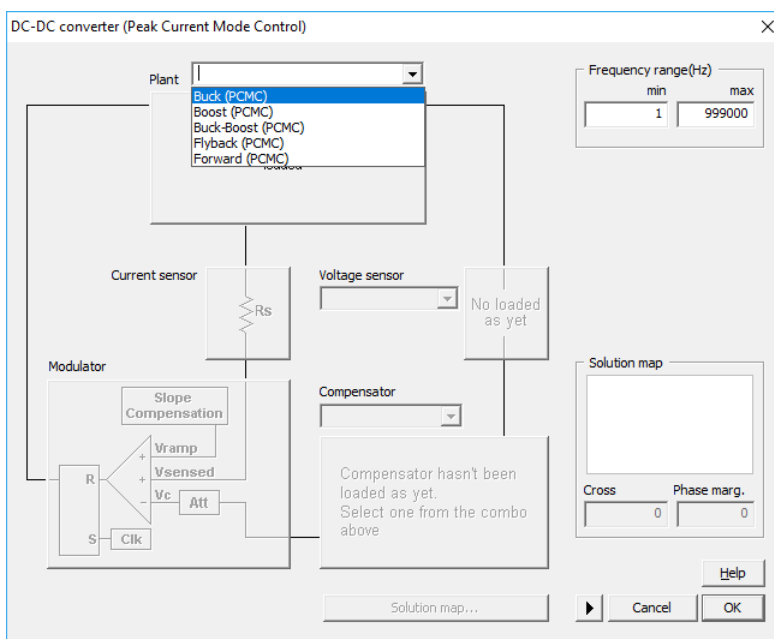
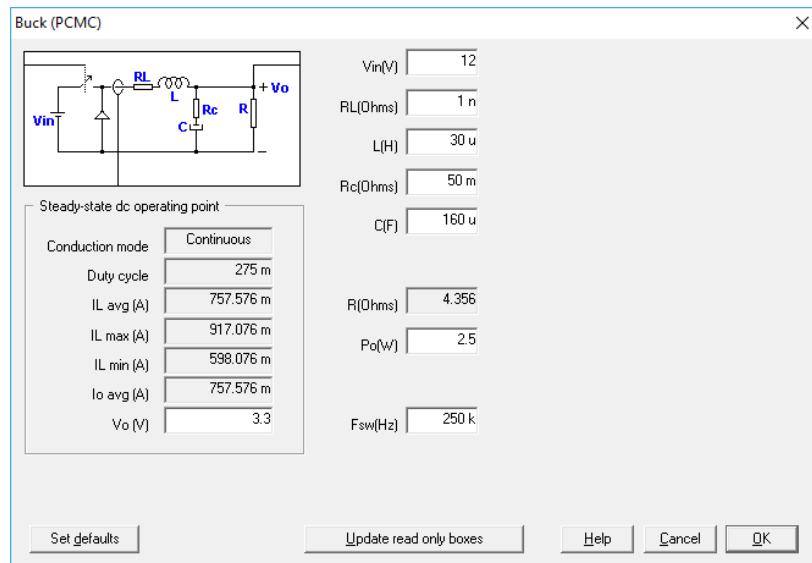

Figure 4: Selecting the topology
Figure 5: Buck converter parametrization
2. Select one of the pre-defined DC/DC converters. In this tutorial a buck converter has been chosen and configured. See Figure 4 and Figure 5.